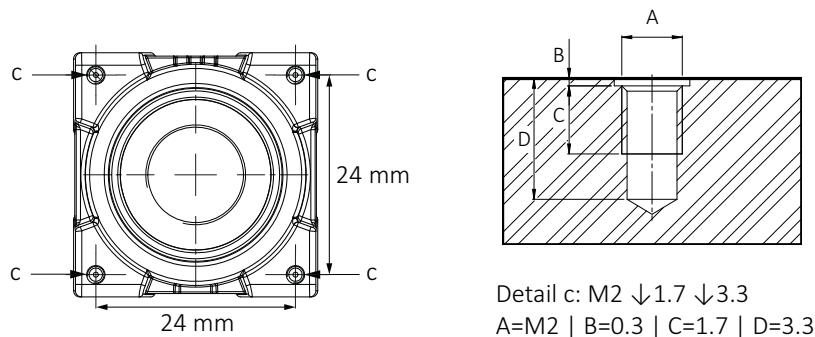

Figure 47: Camera front with mounting threads (c)
1. Mount the camera to the base using suitable M2 screws at 0.17 Nm maximum torque for a thread engagement (C) of 1.7 mm between screws and mounting threads, see Figure 47. For technical drawings, see Dimensions and mass on page 127.